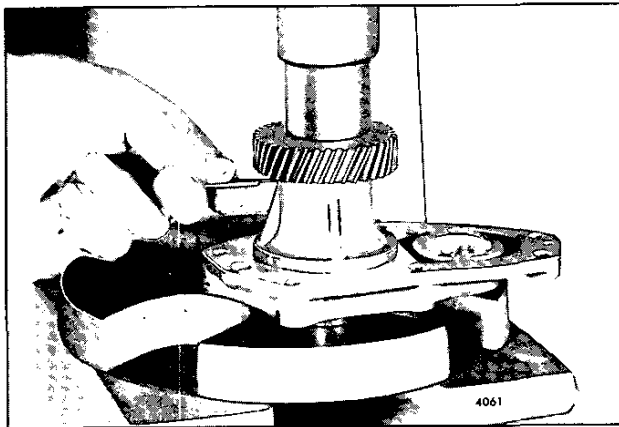

Fig. 17 – Installing Blower Drive Gear on Shaft
4. Install the key in the shaft, then place the blower drive support on an arbor press. Lubricate the inner diameter of the blower drive gear and start it straight on the shaft, with the keyway in the gear aligned with the key in the shaft. Place a spacer over the gear and press the gear on the shaft until a .005" feeler gage may just be withdrawn (Fig. 17).